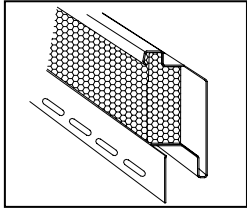

Figure 1
2. On both ends of the lineal, cut 7/8" notches out of the J pocket and the insert leg. Cut back the foam to these notches. (Figure 1)